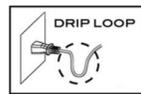

Fig. 1
2. A drip loop must be used with all electrical aquarium devices. A drip loop is a self-made part of the cord hanging below the receptacle. (See Fig. 1)